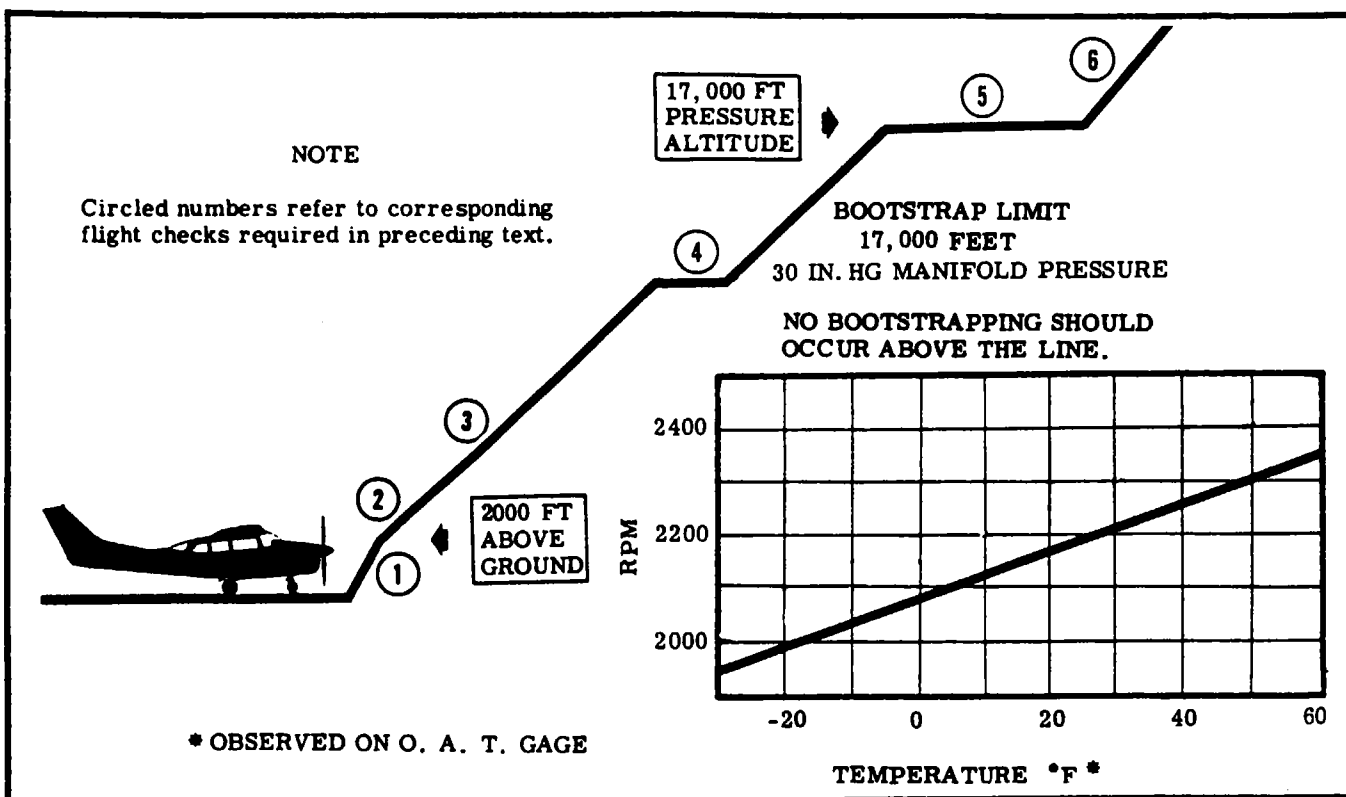

Figure 12A-16. Operational Flight Check
If the wastegate closes at engine speeds lower than shown on the chart in figure 12A-16, the turbocharger performance is normal. If the wastegate closes at engine speeds higher than shown in figure 12A-16, refer to the trouble shooting chart in paragraph 12A-110.
- (2) Note outside air temperature and RPM as manifold pressure starts to drop, which should be in accordance with the chart in figure 12A-16.
- (3) After noting temperature and RPM, increase engine speed 50 RPM to stabilize manifold pressure, with the wastegate modulating exhaust flow to control compressor output.
- (6) **MCP CLIMB - VARIABLE CONTROLLER AND TURBOCHARGER PERFORMANCE CHECK.**